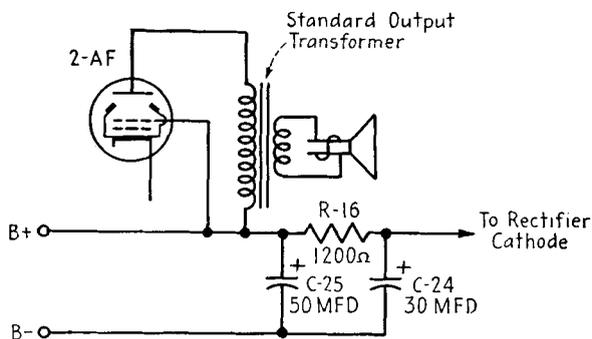

FIG. 18-30. Replacing a hum-bucking-type output transformer, method 2.
2. Use the circuit of Fig. 18-30. This filters the second AF plate voltage supply also and will decrease the B plus voltage. The filter resistor should be replaced by one of higher wattage.